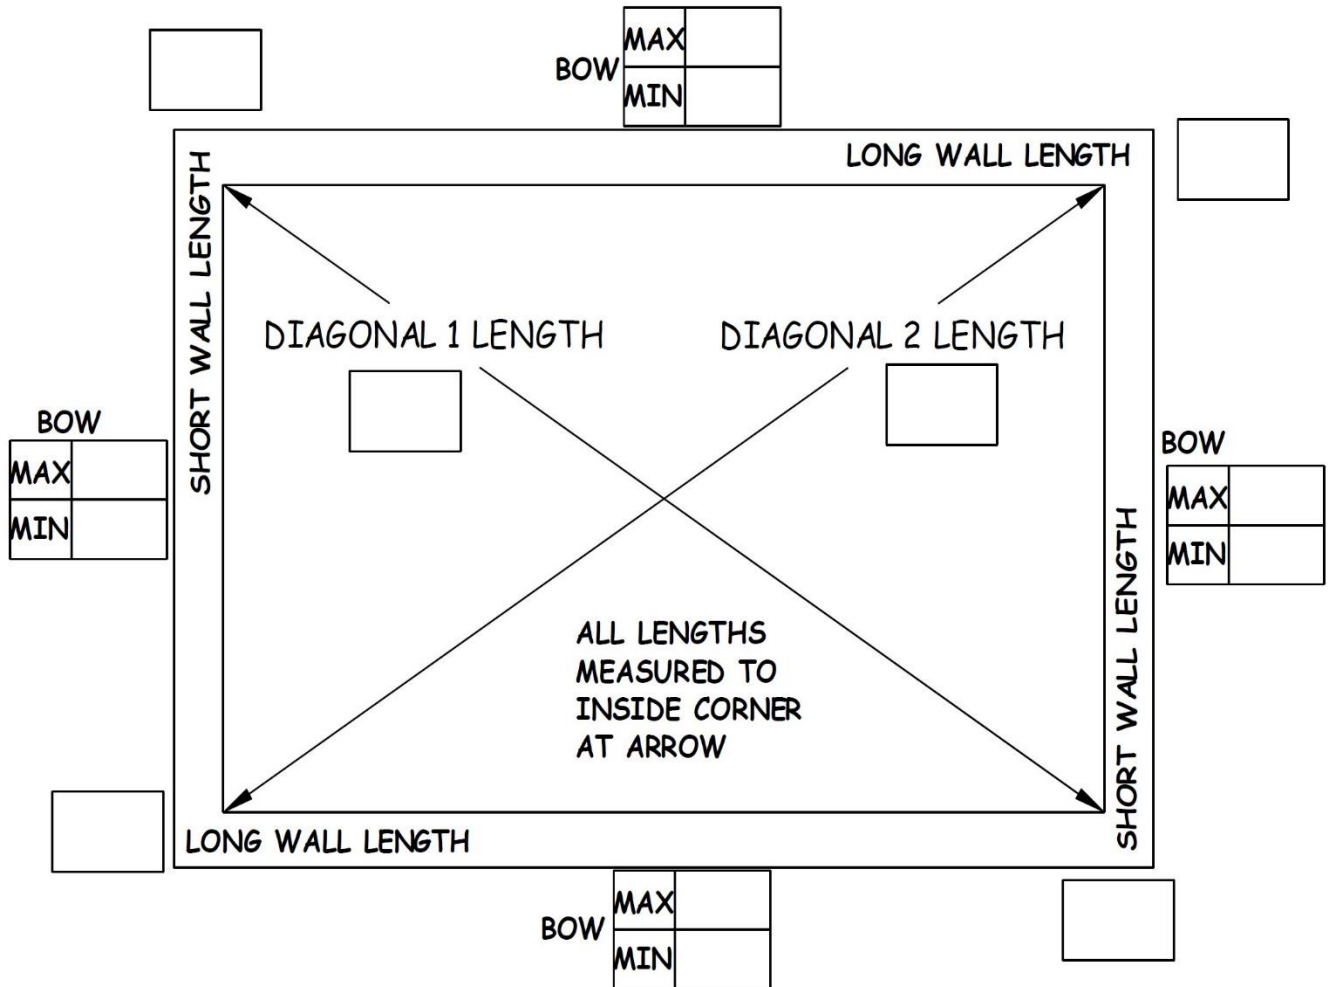

Figure 3-1. Wall Layout Worksheet.
2. **Create a Rectangle.** Remove the Wall Layout Worksheet (Figure 3-1 on the next page) from this manual. With a long steel tape, "burn a foot" and measure the lengths between the initial corner marks from Step 1 above of the opposite walls at each end (see Figure 3-1). Record the measurements on the Wall Layout Worksheet. If opposite wall lengths differ by ⅛" OR MORE, adjust the corner marks to equalize the lengths by adding one-half the difference at each end of the shorter wall.